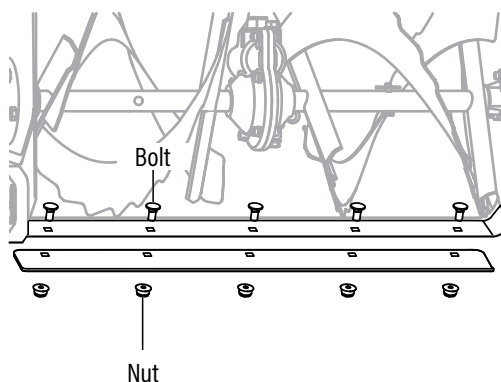

Fig.15
1. The scraper bar is located at the bottom of the snow blower housing. In the process of snow blowing, the bar may touch the ground or stone directly, resulting in wear. Remove the battery and turn the snow blower on its side to work on the tool. (Fig. 15)
2. Use a Hex wrench to remove the 5 nuts and washers under the bottom of the housing. Remove the worn scraper bar from the snow blower. (Fig. 15)